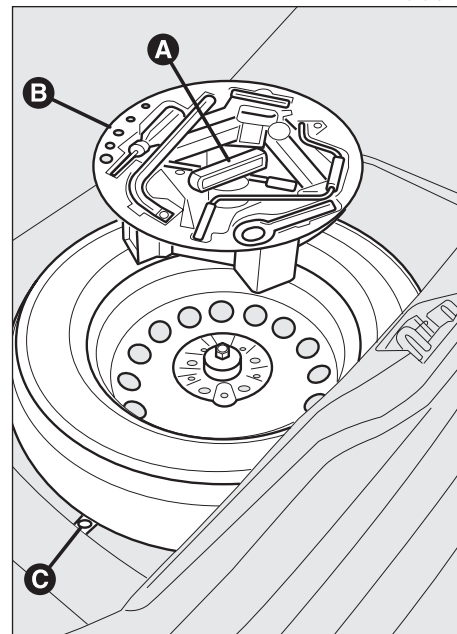

fig. 2
- Loosen the clamping device (handle) **(A-fig. 2)**.
— place the tool container on the spare wheel and secure everything with the clamping device (**A-fig. 2**).